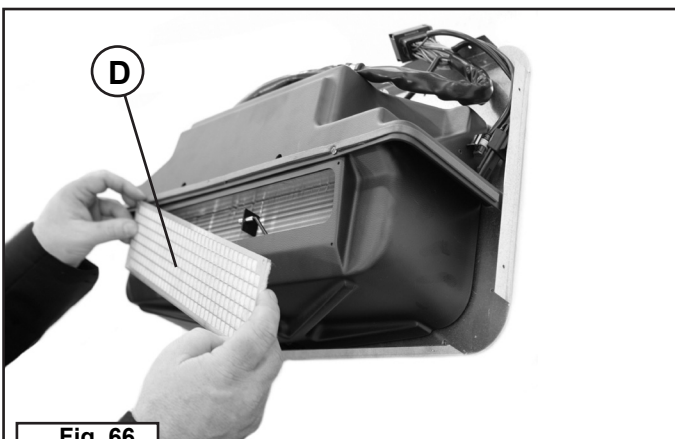

Fig. 66
7	Remove and replace the filter (D) (fig. 66).